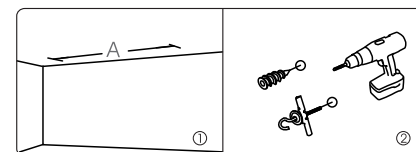

Figure 12
1. To drill two same holes with an electric drill horizontally with wall, then fasten hangers (unprovided) onto the ceiling. (Figure 12)